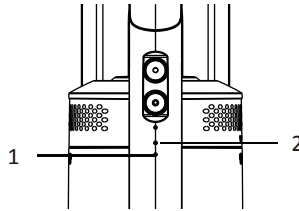

Fig. 2
3. The light indicator shows the status (Fig 2):
- Light indicator 1(Fig 2) will flash when the battery is running low and needs to be recharged, If recharge is not commenced, the vacuum will power off.